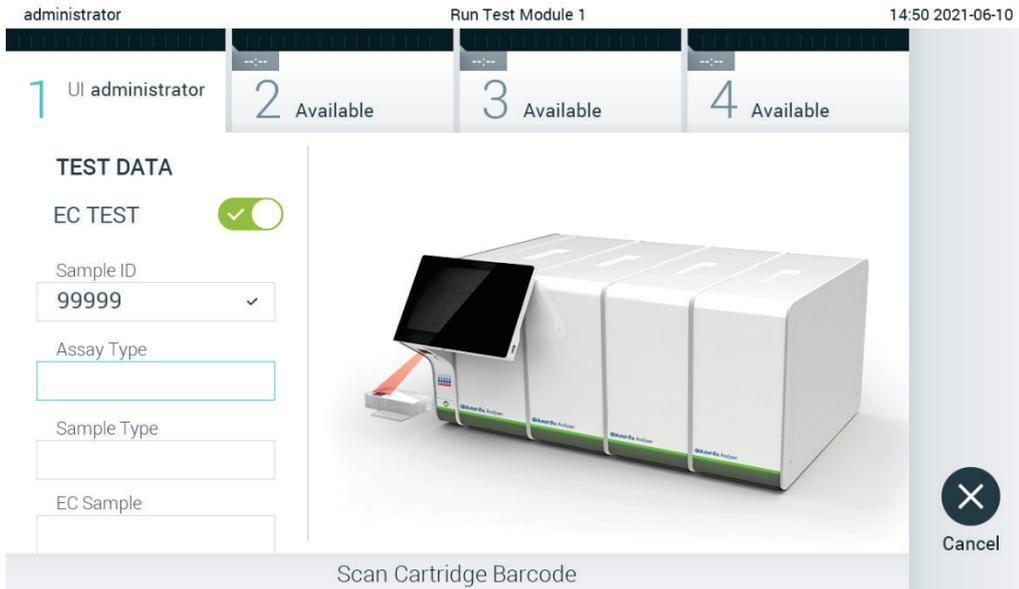

Figure 89. Scanning the QIAstat-Dx assay cartridge bar code.
4. When prompted, scan the bar code of the QIAstat-Dx assay cartridge to be used. The QIAstat-Dx Analyzer 1.0 automatically recognizes the assay to be run, based on the QIAstat-Dx assay cartridge bar code (Figure 89, next page).